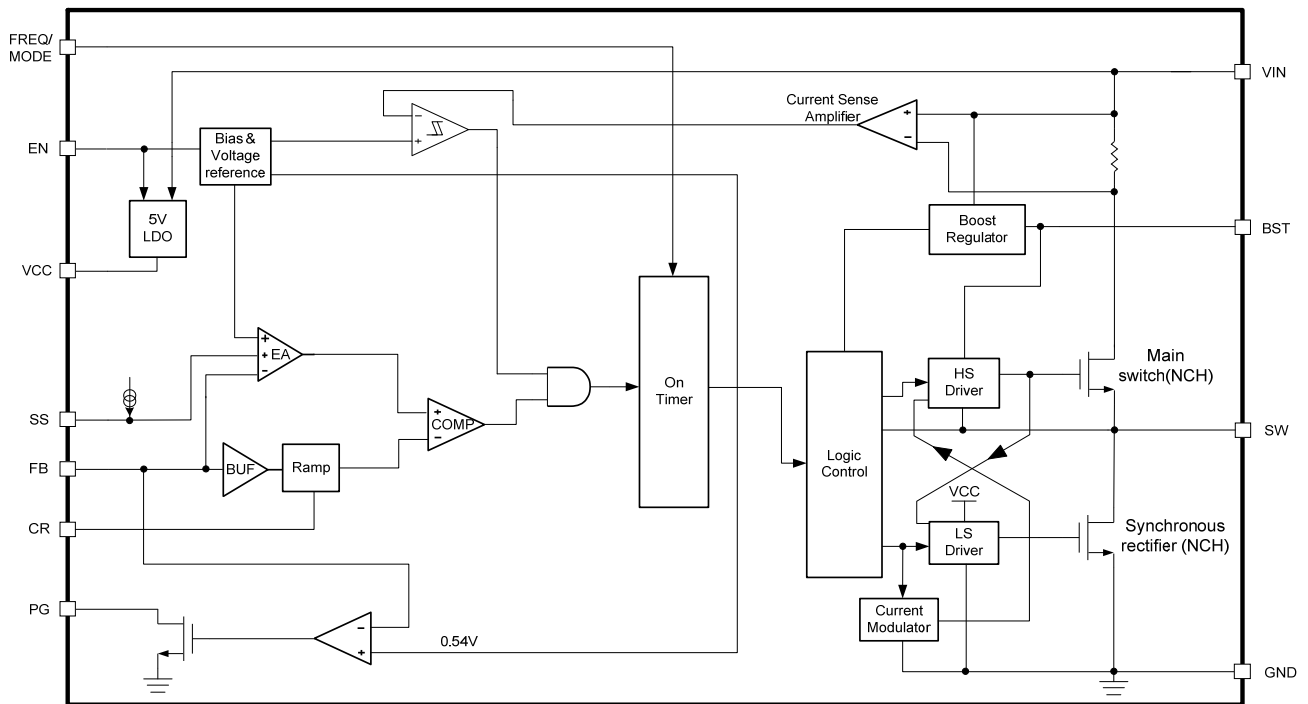

Figure 1—Functional Block Diagram
MP2316 has cycle-by-cycle over-current limit control. During HS-FET ON state, the inductor current is monitored. When the sensed inductor current hits the peak current limit, the HS limit comparator (shown in Figure 1) is triggered, the device enters over-current protection mode immediately, turns off HS-FET and turns on LS-FET. Meanwhile, the output voltage drops until VFB is below the under-voltage (UV) threshold—typically 50% below the reference. Once UV is triggered, the MP2316 enters hiccup mode to periodically restart the part.